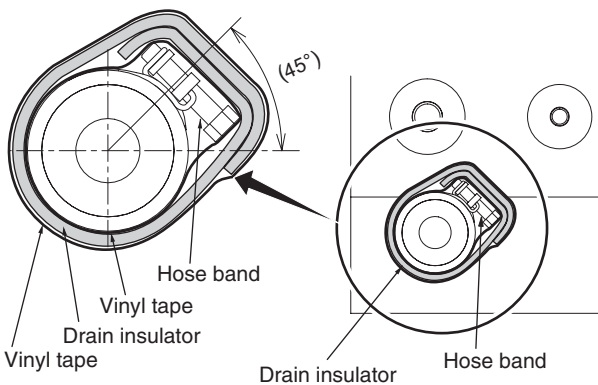

Fig. 3-13
- (1) Prepare standard hard PVC pipe VP20 (O.D. 26 mm) for the drain and use the supplied hose band to prevent water leaks. (Fig. 3-13)
- Attach so that the hose band fastener is on the side of the drain port. (Fig. 3-13)
- Attach the hose bands so that each is approximately 5 to 25 mm from the end of the supplied drain hose. (Fig. 3-13)